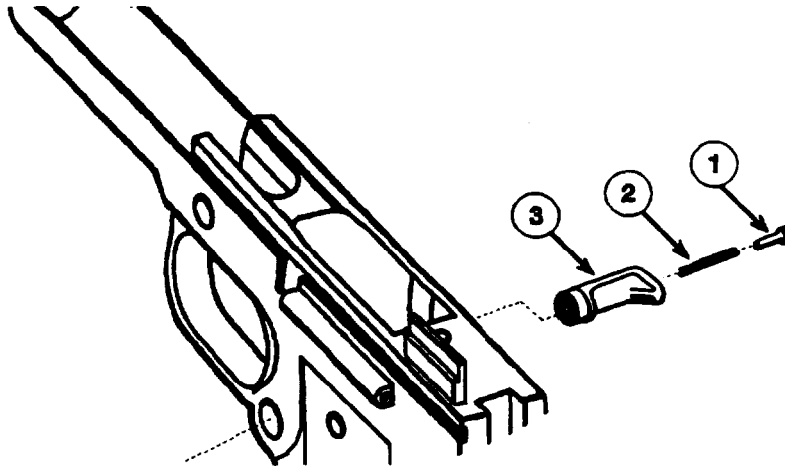

Figure 6-5. Magazine Catch Group
(3) Remove the magazine catch group, Figure 6-5, out the right side of the pistol as a group.
(4) Remove magazine catch lock (1), Figure 6-5, and magazine catch spring (2) out of the magazine catch (3).
(1) Inspect that the magazine catch lock (1), Figure 6-5, lays flat along the surface of the receiver assembly. Check for burrs and cracks. If burred or cracked, replace magazine catch lock.
(2) Inspect that the magazine catch group moves freely within the receiver assembly. Check for worn magazine catch spring (2), Figure 6-5. If worn, replace magazine catch spring.
(3) Inspect that the magazine catch group holds the magazine assembly securely inside the magazine well. Check the magazine catch (3), Figure 6-5, for burrs and cracks. If burred or cracked, replace magazine catch.
(1) Install the magazine catch lock (1), Figure 6-5, and magazine catch spring (2) into the magazine catch (3).
(2) Insert the magazine catch group, Figure 6-5, into the right side of the pistol.
(3) Use a small flat-tip screwdriver to turn the magazine catch lock (1), Figure 6-5, clockwise 90 degrees to secure in place while depressing the left side of the magazine catch.
(4) Reassemble slide assembly to receiver assembly by following the procedures outlined in para 3-3 of this Manual or in TM 00526A-10/1, Operator's Manual.
(5) Once the pistol is completely reassembled, perform the safety checks outlined in para 6-18 of this Manual.